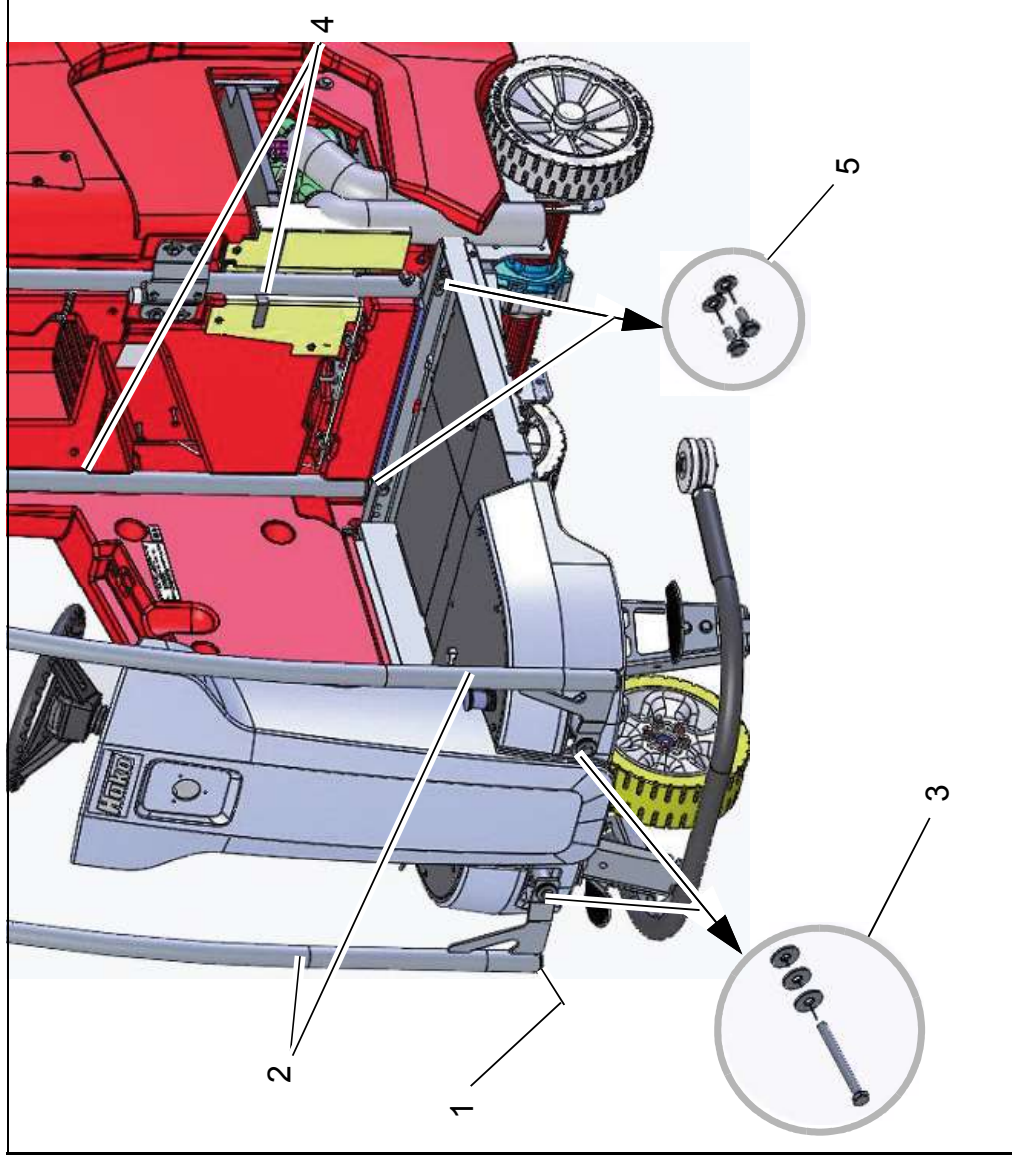

Fig. 3
1. Insert the six sealing plugs into the open ends of the four bars (Fig. 3/1).
2. Attach the two front bars (Fig. 3/2) with the M12x120 screws and the six washers to the chassis finger-tight (Fig. 3/3).
3. Attach each of the two rear bars (Fig. 3/4) to the chassis with two M10x20 hex screws and the SKM 10 detent edge washers (tighten finger-tight) (Fig. 3/5).